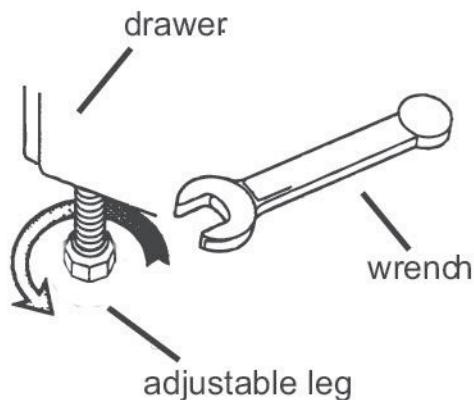

Figure 6: Adjusting range height
- Slide the range back into position. If necessary, to avoid scratching the countertop, adjust the height of the range by adjusting the range feet (see Figure 6: Adjusting range height). Be sure to engage the anti-tip bracket. See the *Tip Over Hazard Warning* earlier in this instruction and also in the *Slide-In Range Installation Manual*.